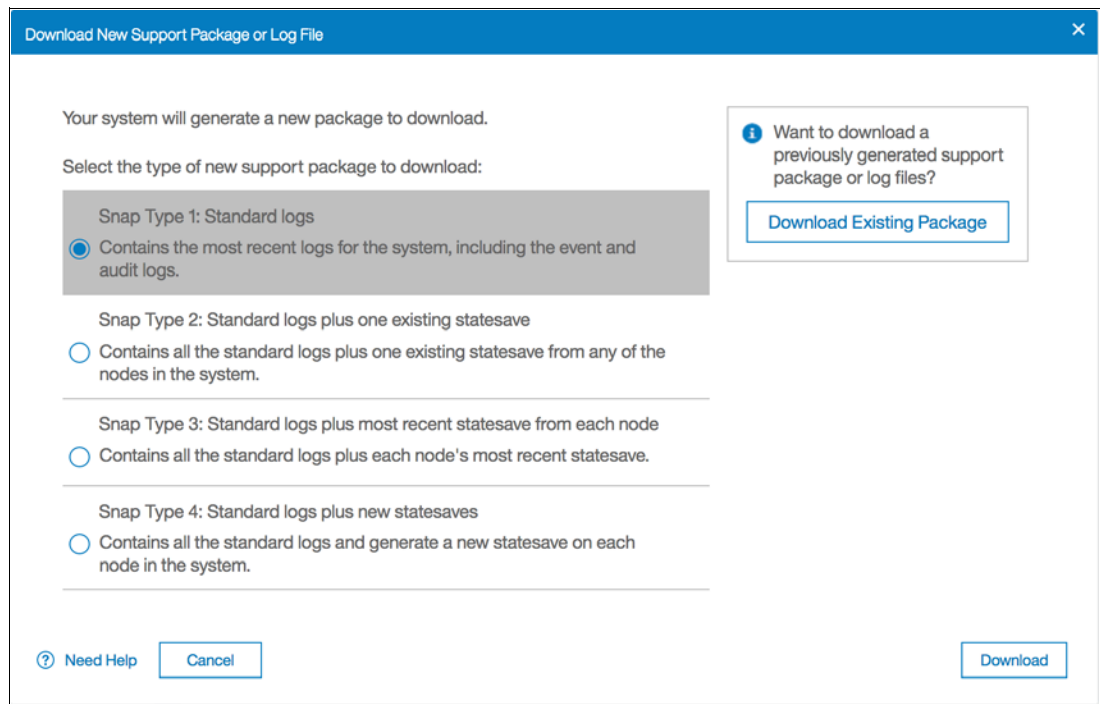

Figure 9-21 Download New Support Package or Log File panel
Click **Download Support Package** to open the **Download New Support Package or Log File** panel, as shown in Figure 9-21.
- Choose one of the Snap Types shown in Figure 9-21 and click **Download**. The entire support package is downloaded and the Easy Tier log file is available within it.